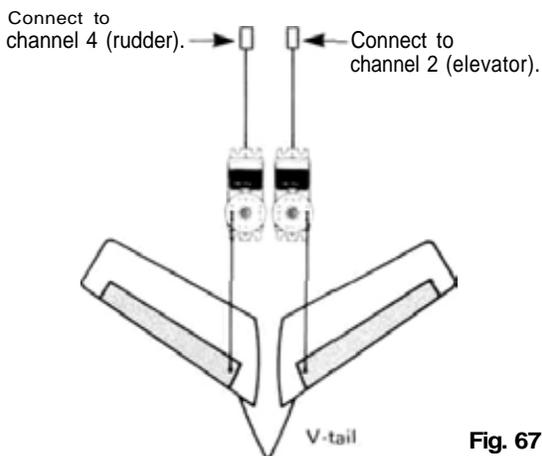

Fig. 67
- Install and connect the servos as shown in Fig. 67. Always connect the servo to the Right Rud-dervator to CH2 (Elevator).